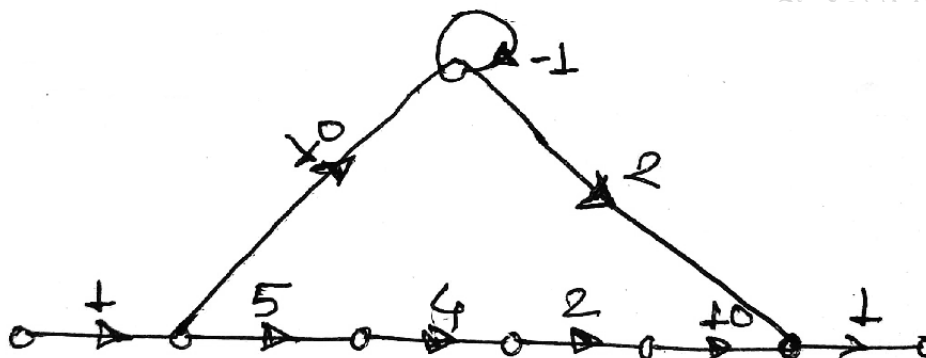

Fig.3 Signal Flow Graph
b) Find  $\frac{C(S)}{R(S)}$  using Massons Gain formula for given SFG below in fig.3